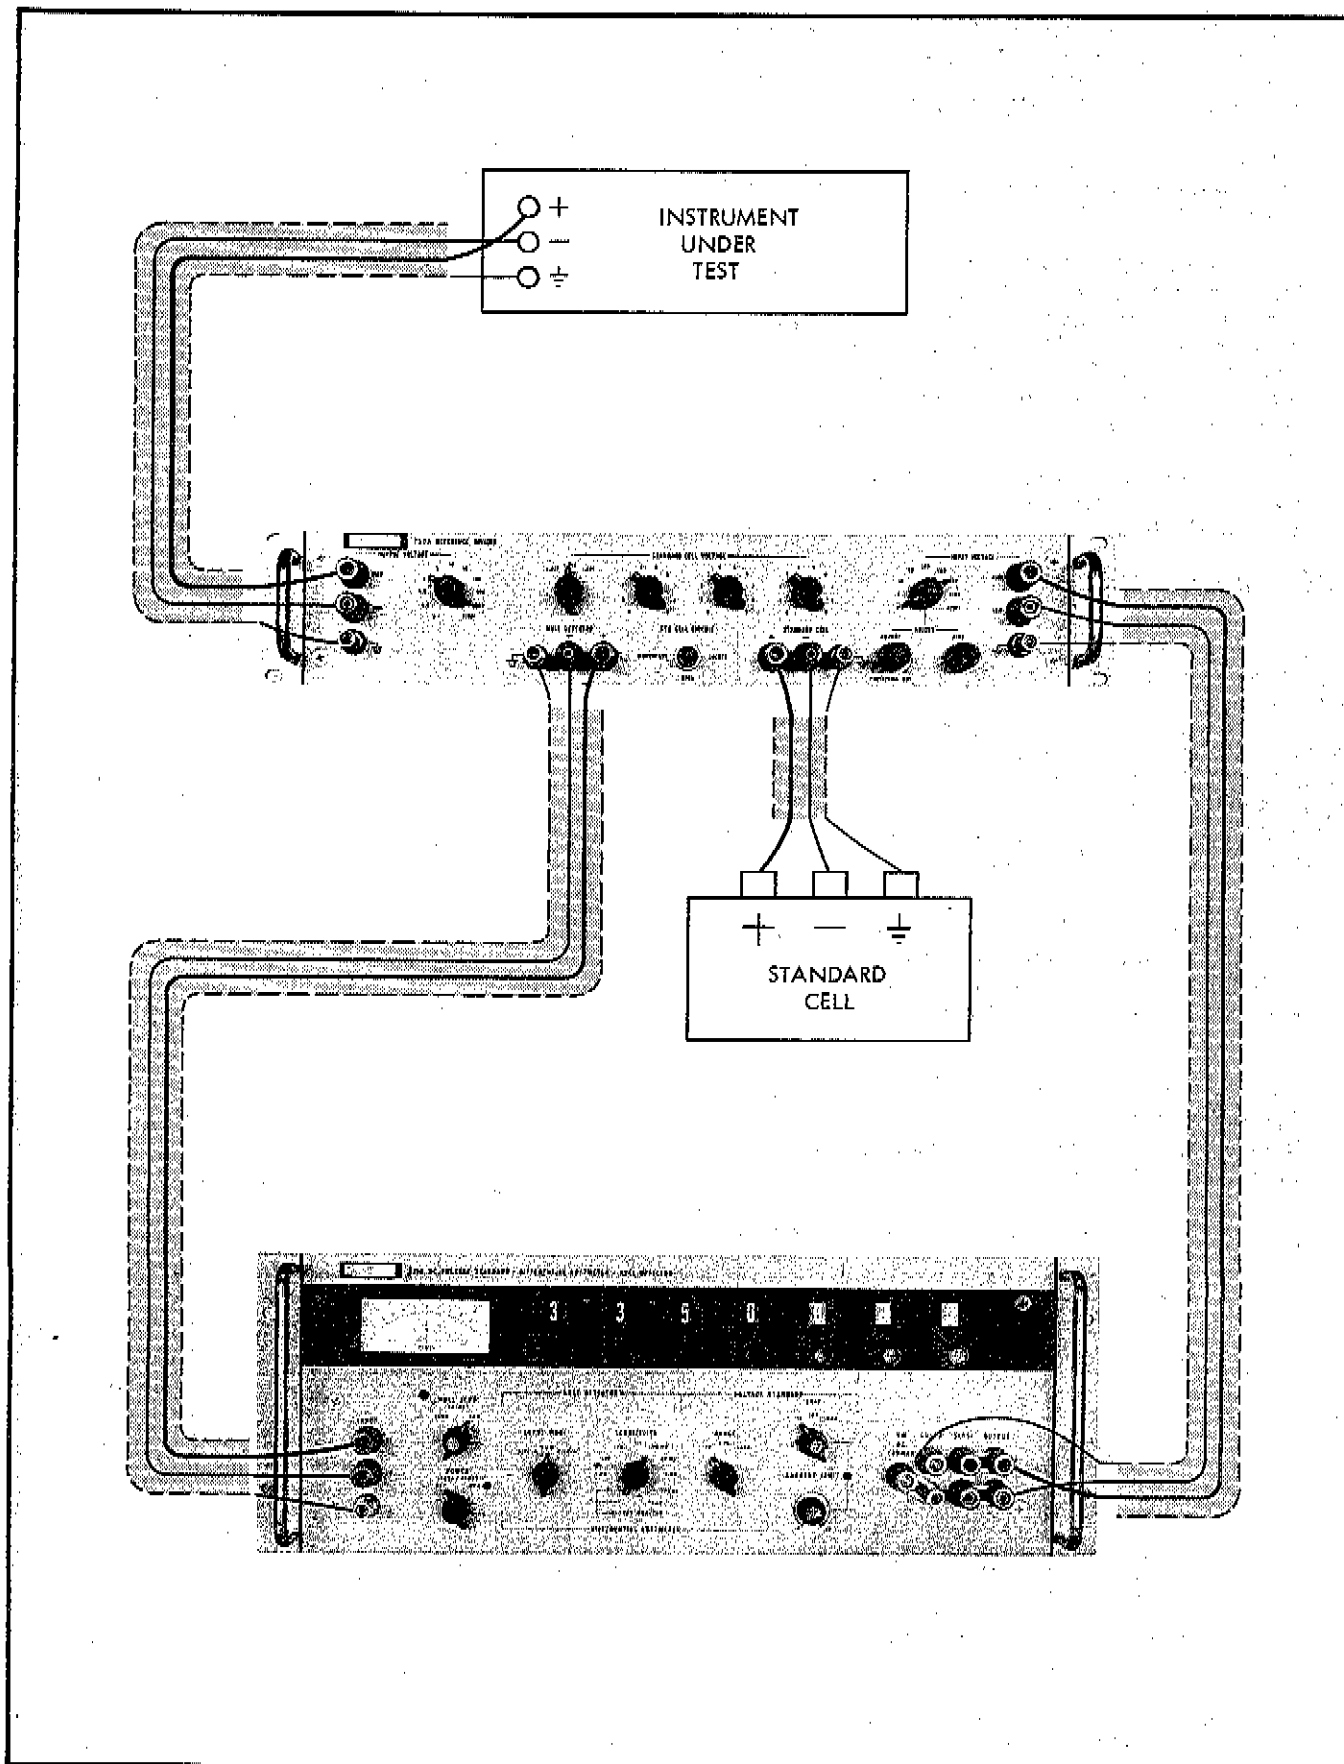

Figure 2-5. OPERATION WITH A REFERENCE DIVIDER
- c. Connect the equipment as illustrated in Figure 2-5. Insure that the equipment connections are in the proper polarity.